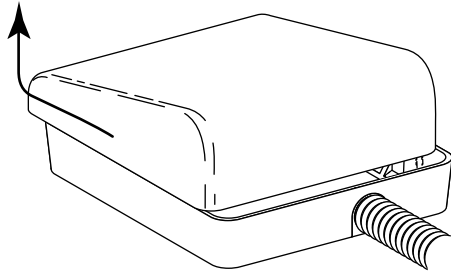

FIGURE 26
1. Remove the floor box cover. The cover on a stainless steel floor box simply lifts off the box. To remove the cover from a Cascade floor box, slide the cover forward, then lift it off the floor box base (see Figure 26).